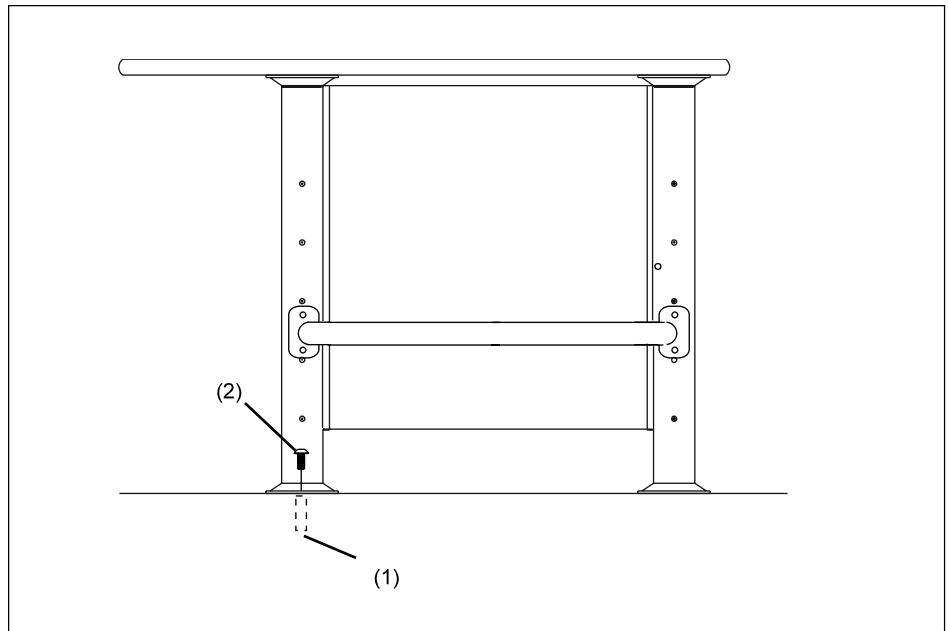

Figure 14. Secure Bases to Floor
2. Secure the table bases to the floor with four 3/8"-16 x 3/4" button head cap screw. Refer to *Figure 14*.